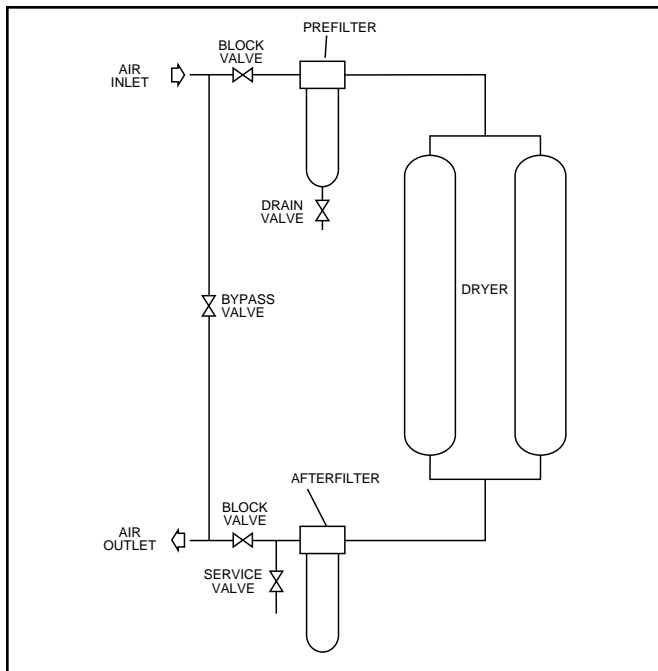

Figure 2.1
1. All external piping must be supplied by the customer unless otherwise specified. Refer to Table 2.1 for connection sizes. Inlet and outlet manual shut-off valves and a vent valve are recommended so the dryers and filters can be isolated and depressurized for servicing. Refer to Figure 2.1 for recommended piping layout.